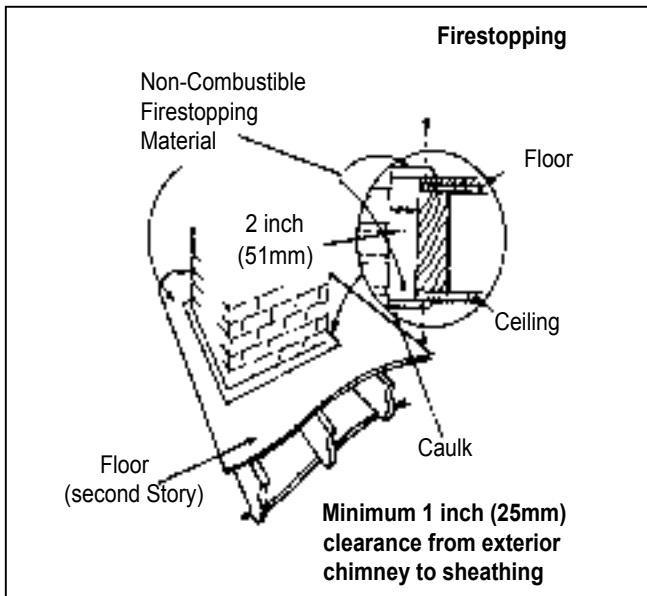

Figure 7.1
AVOID FIRE: To ensure that insulation or any other combustible material does not contact the chimney, a chimney inside the house must have at least 2 inches (51mm) of air space clearance around the chimney. A chimney outside the house must have at least 1 inch (25mm) clearance to the combustible structure. Non-combustible fire stops must be installed at the spaces where the chimney passes through floors and/or ceilings. **Refer to Figures 7.1 & 7.2 on page 7. Canadian installations require a full relining of the chimney.**
- A chimney inside the house must have at least 2 inches (51mm) of clearance to the combustible structure. A chimney outside the house must have at least 1 inch (25mm) clearance to the combustible structure. Non-combustible fire stops must be installed at the spaces where the chimney passes through floors and/or ceiling (See Figures 7.1 and 7.2 on page 7).